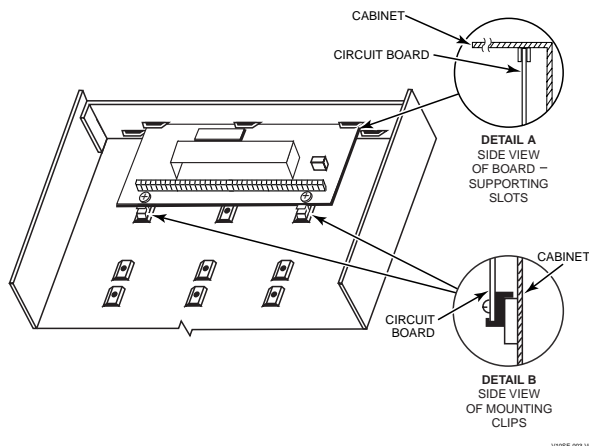

Figure 2. Mounting the Control's Circuit Board Alone in the Cabinet
1. Hang two mounting clips* (provided) on the raised cabinet tabs (see Detail B in *Figure 2* below).